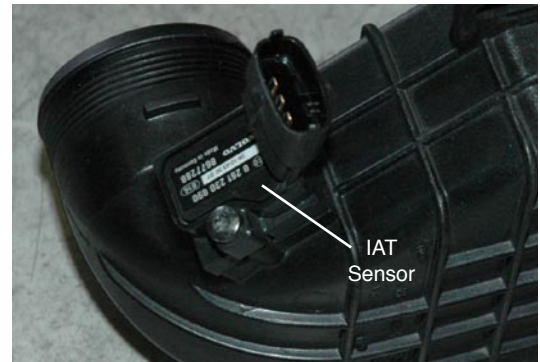
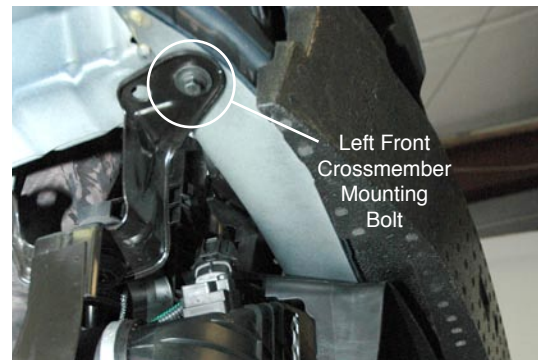

Figure 3.4
Figure 3.5
- Locate the IAT sensor on intercooler (see Fig. 3.4).
- Remove the one (1) T20 Torx fastener securing IAT sensor to intercooler.
Your new intercooler will be mounted using the front two (2) bolts securing the radiator lower crossmember (See Figs. 3.5 and 3.6).
- Locate and remove indicated fasteners (see Figs. 3.5 and 3.6).